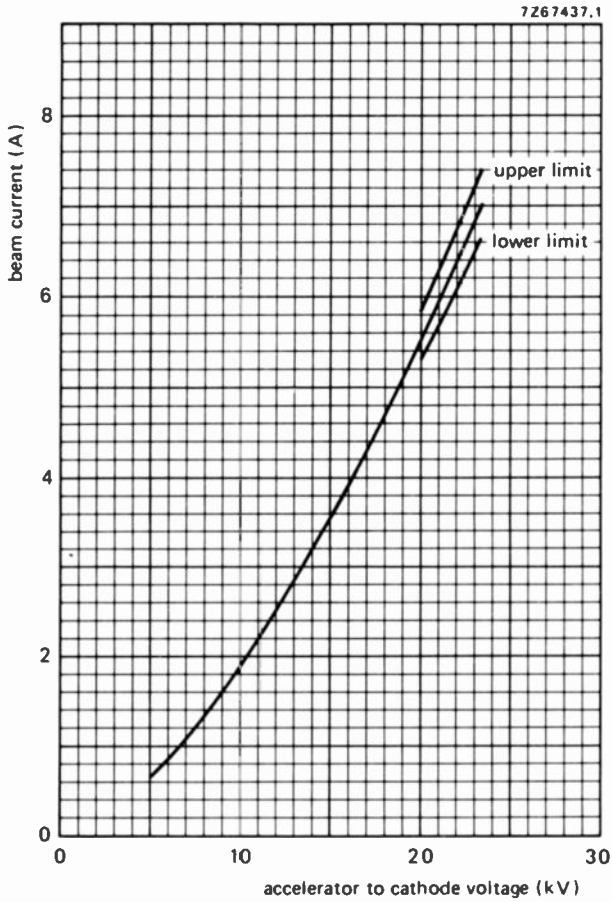

Fig. 4.
8. If the accelerator electrode is connected to the body (ground) via 10 k Ω resistor, the beam current is within $\pm 5\%$ of the value given in the graph of Fig. 4.